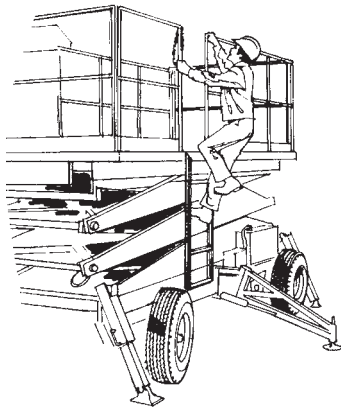

Figure 22-12: Three-Point Contact
- Use three-point contact and proper climbing techniques when mounting or dismounting from the machine (Figure 22-12).